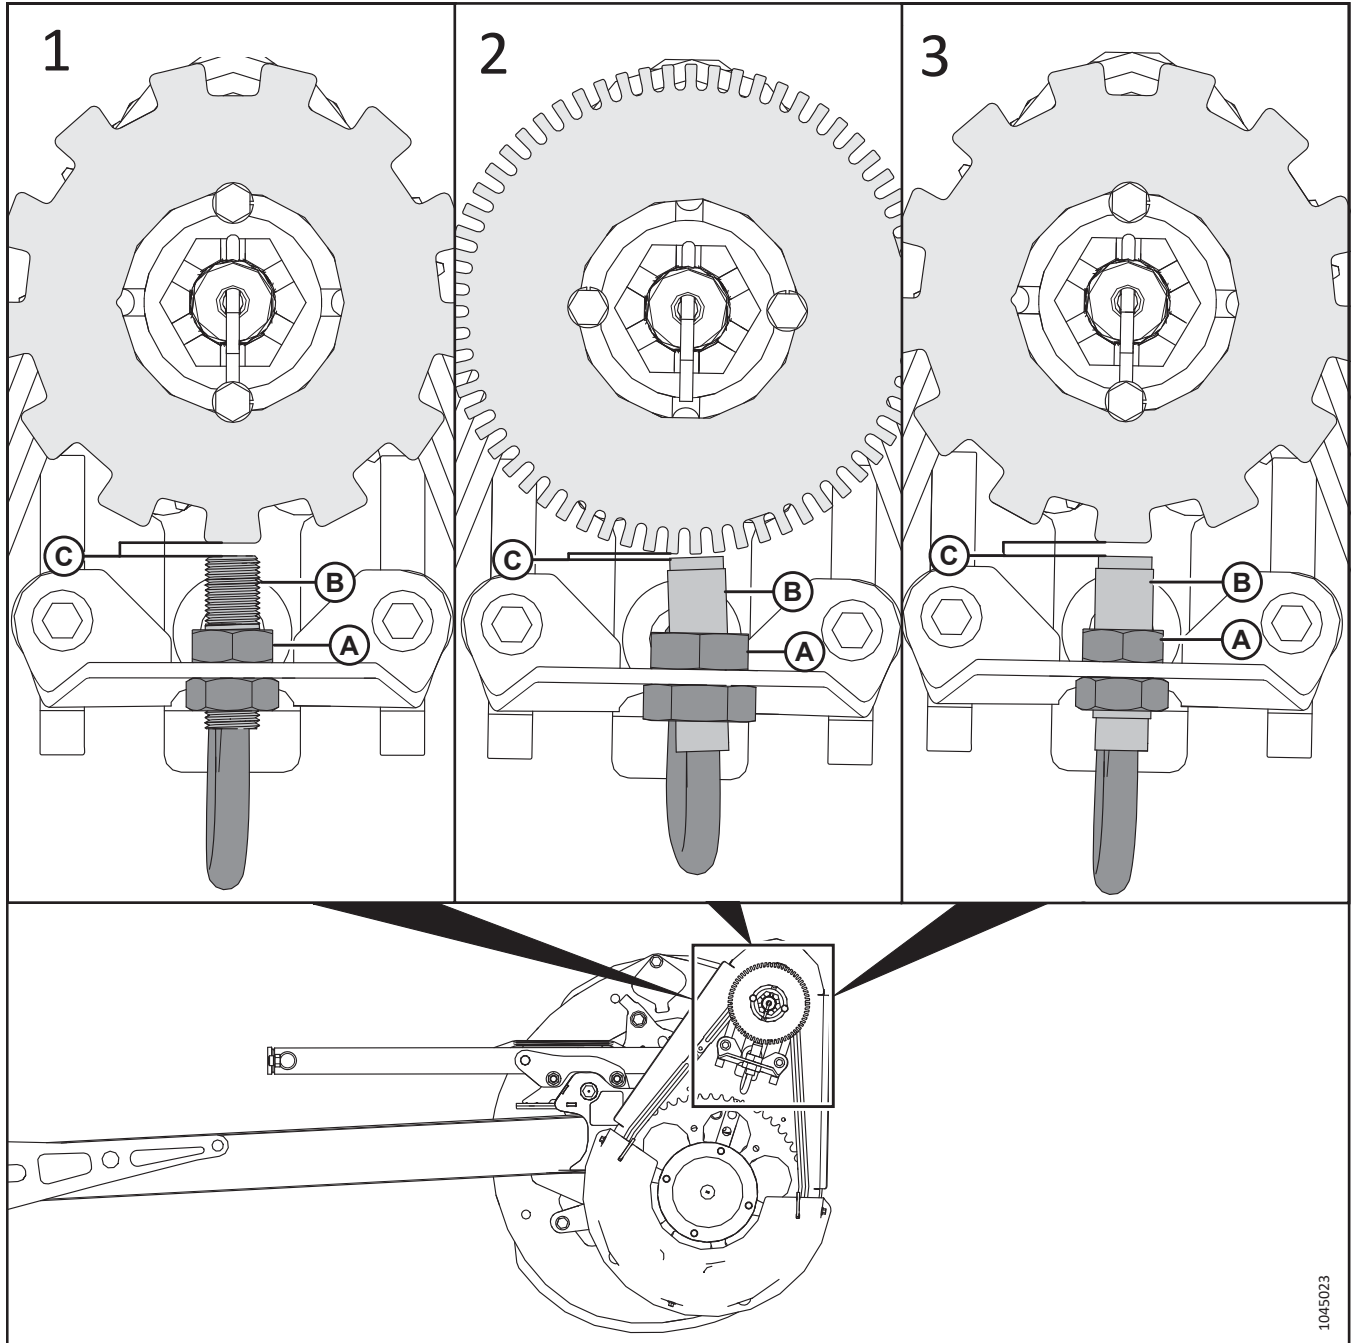

Figure 4.348: Reel Speed Sensor and Disc Configurations
6. Remove the top nut from the new sensor and position sensor (B) onto the support. Secure it with top nut (A).
7. Use Table 4.5, page 722 and Figure 4.348, page 723 to determine the sensor type for the combine, and adjust the sensor nuts to set gap (C) listed in Table 4.6, page 723.